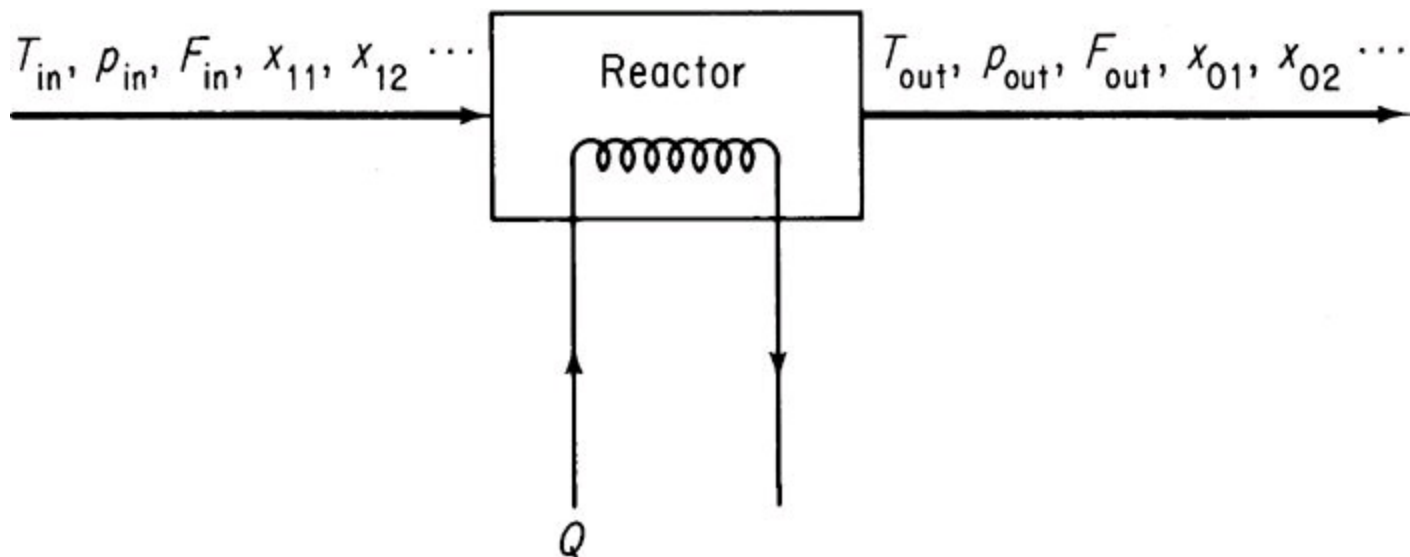

Figure P12.5
12.5. In a reactor model, rather than assume that the components exit from the reactor at equilibrium, an engineer will specify the r independent reactions that occur in the reactor, and the extent of each reaction, ξ_j . The reactor model must also provide for heating or cooling. How many degrees of freedom are associated with such a reactor model? See Figure P12.5.